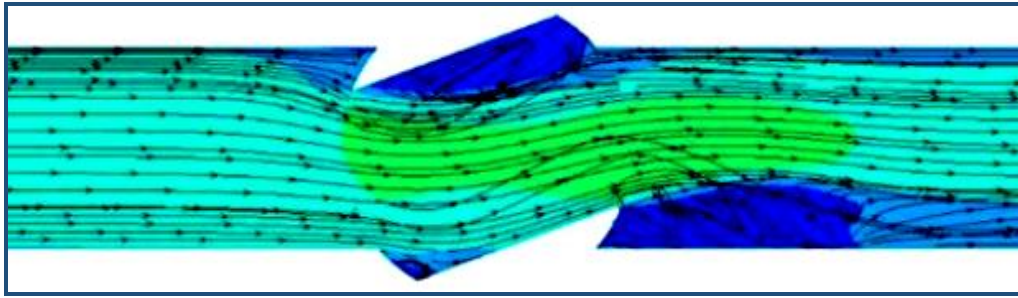

Figure 6.1: Stream lines through the ball valve
5. Analyze the results using the Ansys CFD post to get the flow contour as shown in Figure 6.1.